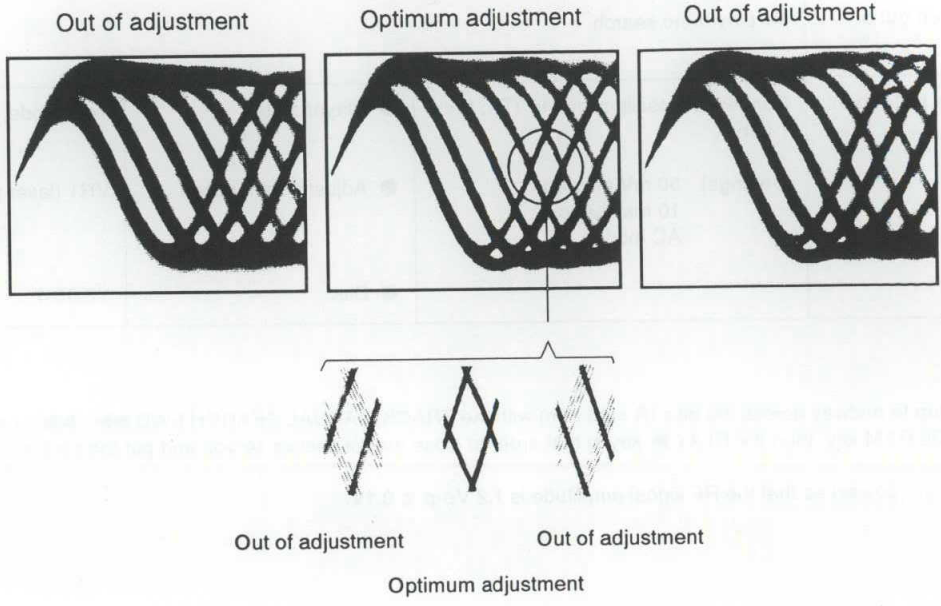

Fig. 8-11 Eye Pattern
3. Next, adjust the tangential tilt adjustment screw with an M3 mm hexagonal wrench so that the eye pattern (the diamond shape at the center of the RF signal) can be seen the most clearly (Fig. 8-11).